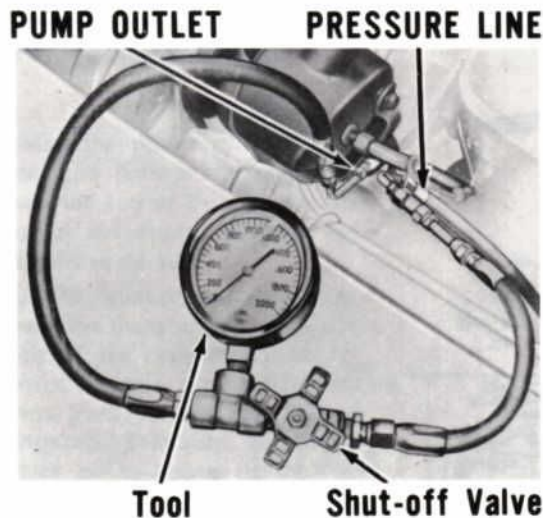

Figure 7—Pressure Test
1. Disconnect the pressure line hose from the pump outlet, and install a pressure testing tool between the hose and the pump outlet (Fig. 7). Be sure that the pressure gauge is between the pump and the shut-off valve on the tool.